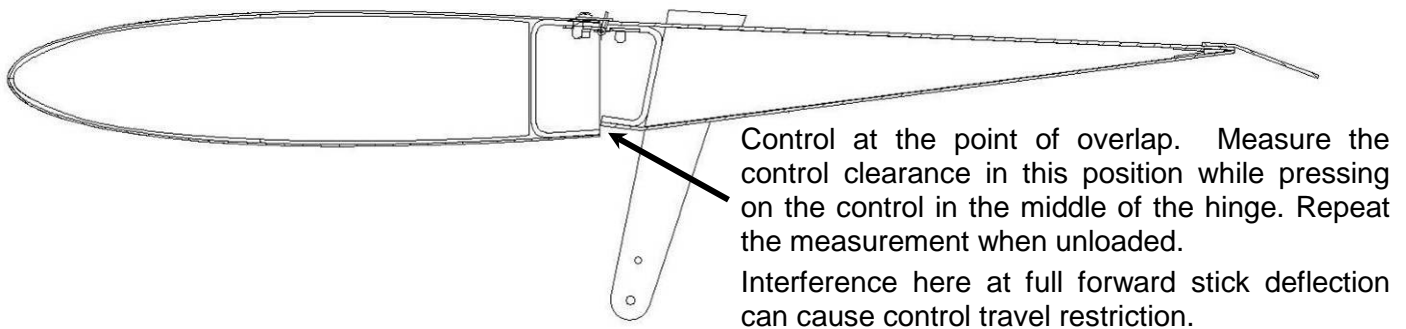

Figure 15 – Elevator Gap Cross Section
- Travel restriction normally presents at the opposite control travel extreme to the control's point of overlap – i.e. for the elevator shown above (Figure 15) full stick-forward deflection is the point most likely to exhibit a travel restriction as the lower surface of the elevator hits the aircraft.